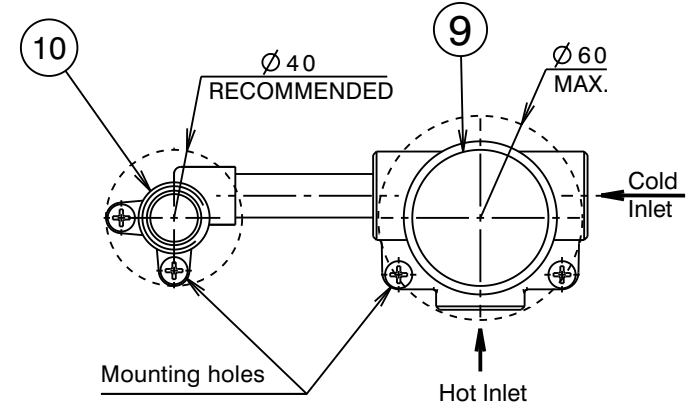

Fig. 2
- 1) *Body kit:* Fit mixer body assembly (9+10) onto a suitable mounting plate or noggin in the wall and secure using screws through the holes in its base. When facing the mixer, the connections should be as follows (Fig.2):